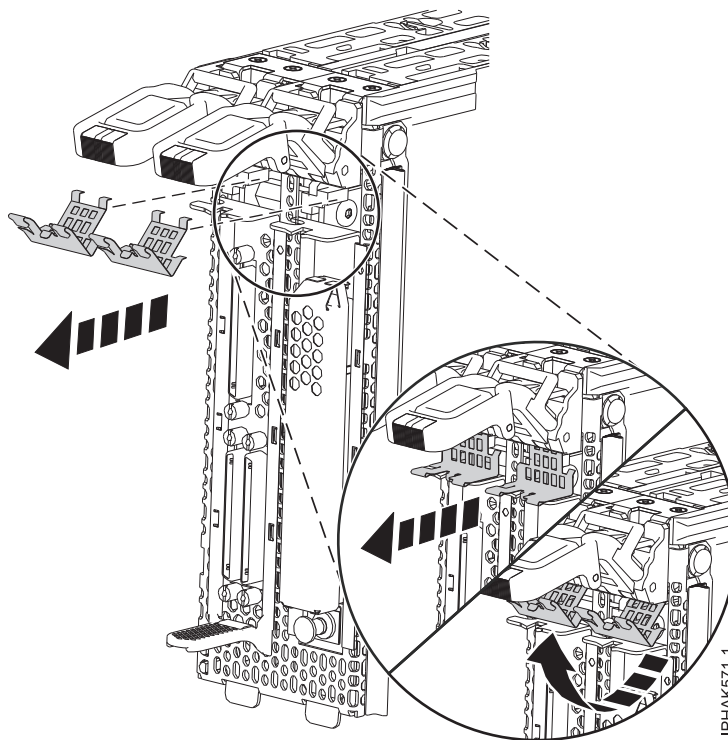

Figure 67. Removing the two metal clips into the front of the assembly
2. Raise the locking arms to the full up position and remove the two metal clips from the front of the assembly. See Figure 67